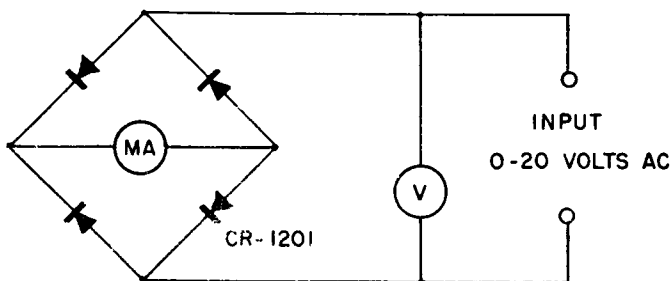

Figure 4-1. Forward Current Test
a. FRONT AND BACK RESISTANCE TEST OF THE SELENIUM STACK.—Connect three CR-1201 selenium stacks that are known to be good and the selenium stack to be checked in a bridge arrangement as shown in figure 4-1, 4-2, 4-3 and 4-4.
(1) FORWARD CURRENT. (Figure 4-1.)—Raise the AC input voltage (step down transformer with a variac or 1000 ohm power potentiometer attached to its primary) until a current of 180 MA is obtained. The AC input voltage should not exceed 14.4 volts.